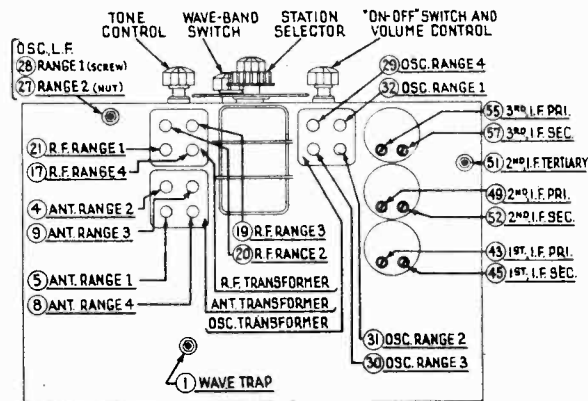

Fig. 4—Locations of Compensating Condensers
4. Using the Philco fibre adjusting screw driver, part No. 27-7059, adjust the I. F. compensating condensers in the following order to give maximum reading in the output meter: 27, 28, 29, 30, 31, 32, 43, 44. (Fig. 4).